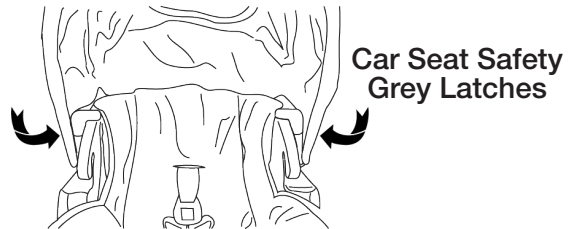

Fig. 12
1. To use the car seat feature, lock back wheels, close the canopy as described in the canopy section (Please see Page 7, Fig. 5A). Recline seat by squeezing both sides of cord housing as described in seat back positioning section (Please see Page 12, Fig. 11). Turn and lock grey latches (Fig. 12). Align car seat as shown in Fig. 12A. Angle feet first, while lowering car seat into a locked position on the child tray. Car seat is in a locked position when the car seat "CLICKS" into the child tray. Graco car seat locked position (Fig. 12B) Evenflo car seat locked position (Fig. 12C). Make sure car seat is locked in place by pulling upward on car seat. Make sure car seat is locked in place by pulling upward on car seat.